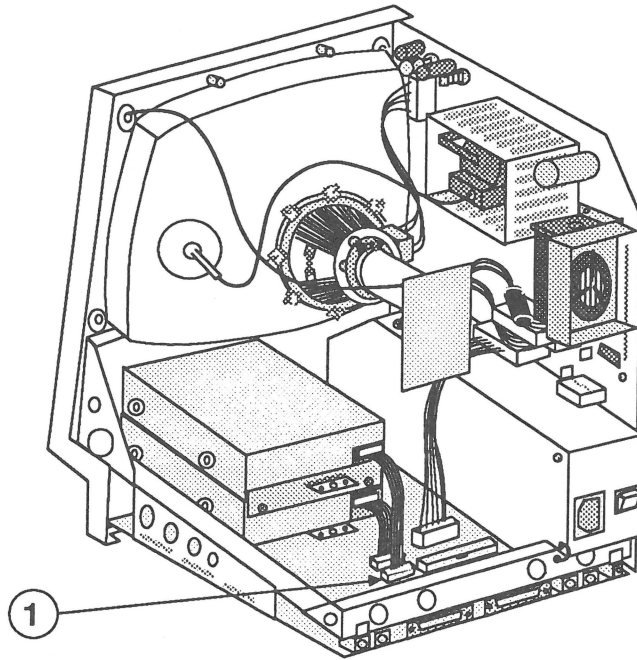

FIGURE 34
5. Reconnect the upper internal disk drive cable to connector J7 on the main logic board (Figure 34, #1).